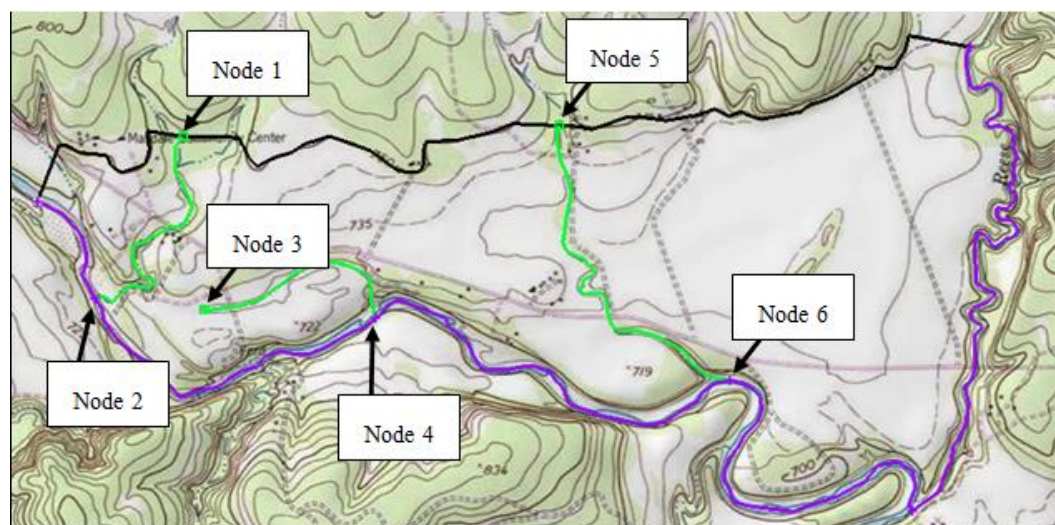

Figure 7 Locations of the drain nodes
7. Using the **Select Points/Nodes**  tool, double-click on Node 1 as shown in Figure 7 to bring up the *Attribute Table* dialog.
10. Repeat steps 7–9 to assign the drain elevations from the list below to the rest of the nodes shown in Figure 7.